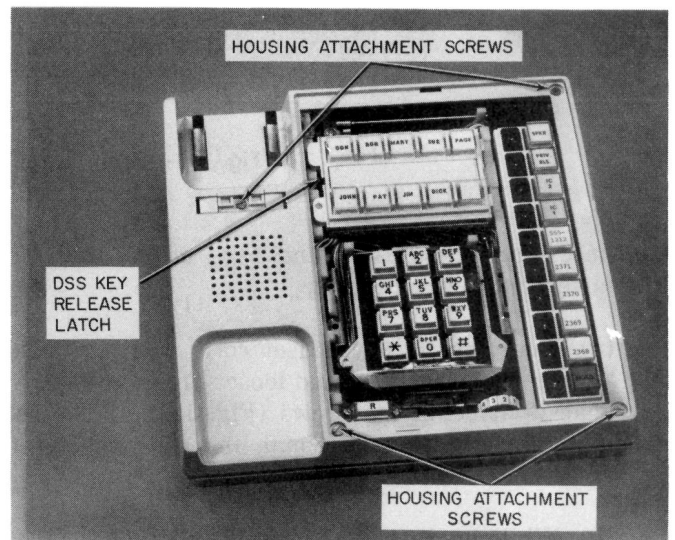

Fig. 49—Basic Satellite Set, Faceplate Removed
5.10 The upper housing is secured to the telephone set chassis by four screws in the primary and basic satellite sets (Fig. 49) and five screws in BIS and HFAI sets. The screw on the left side under the handset also serves to hold the housing blank or handset hook, depending on whether the set is desk- or wall-mounted. The other screws are captive in the housing. To take off the housing:
- (b) Push the metal latch on the left side of the key (Fig. 49) to the right to release the key.
5.24 To install the DSS key (664B or 664C):